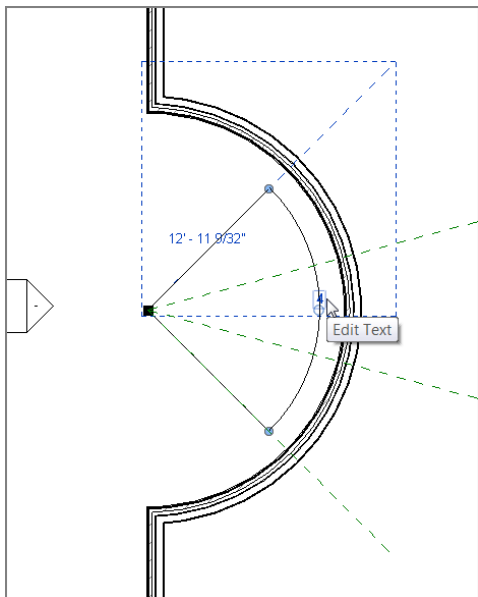

FIGURE 4.15: After the array is created, select one of the arrayed members. Notice that you can change the count.
13. Pick (left-click) off into another part of the view. This establishes the array. You should have four reference planes at this point, similar to Figure 4.15.
14. Pick (left-click) one of the reference planes. You see a large, dashed box surrounding the reference plane, and a temporary arc dimension with a blue number 4 at the quadrant. It may be obscured by the arc, as it is in Figure 4.15, but it's there nonetheless.